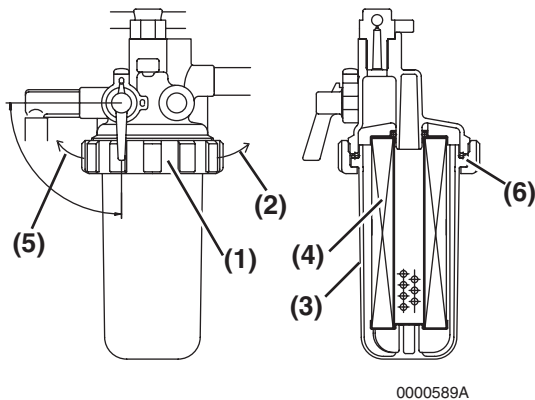

Figure 14
3. Turn the retaining ring (**Figure 14, (1)**) to the left (**Figure 14, (5)**).
4. Carefully remove the cup (**Figure 14, (3)**). Pour the fuel into an approved container and dispose properly. Hold the bottom of the cup with a shop towel to prevent the fuel from dripping. Wipe up any spills immediately.
5. Remove the fuel filter (**Figure 14, (4)**) by pulling it down.
- Check the condition of the O-ring (**Figure 14, (6)**). Replace in necessary.
- Install the cup to the mounting flange and turn the retaining ring (**Figure 14, (1)**) to the right (**Figure 14, (2)**). **Hand tighten only.**